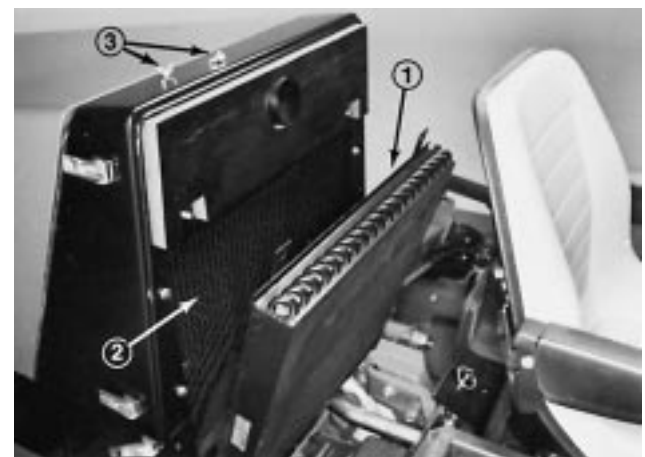

Figure 42
- C. Remove wing nuts securing top of oil cooler to upper radiator support and pivot top of oil cooler away from radiator (Fig. 42).